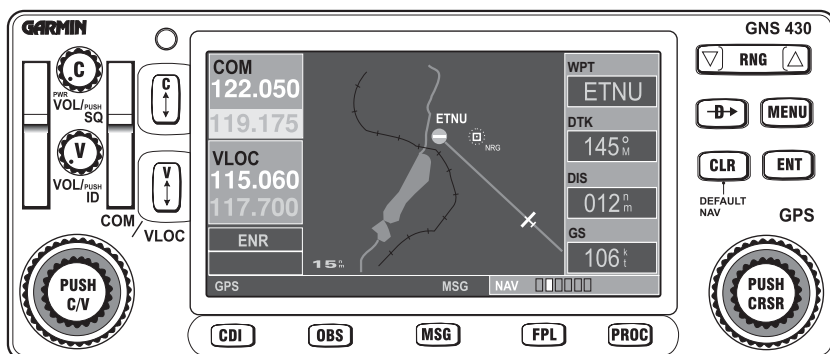

Figure 7-1
**NOTE:** The GNS 430 is shown in figure 7-1.